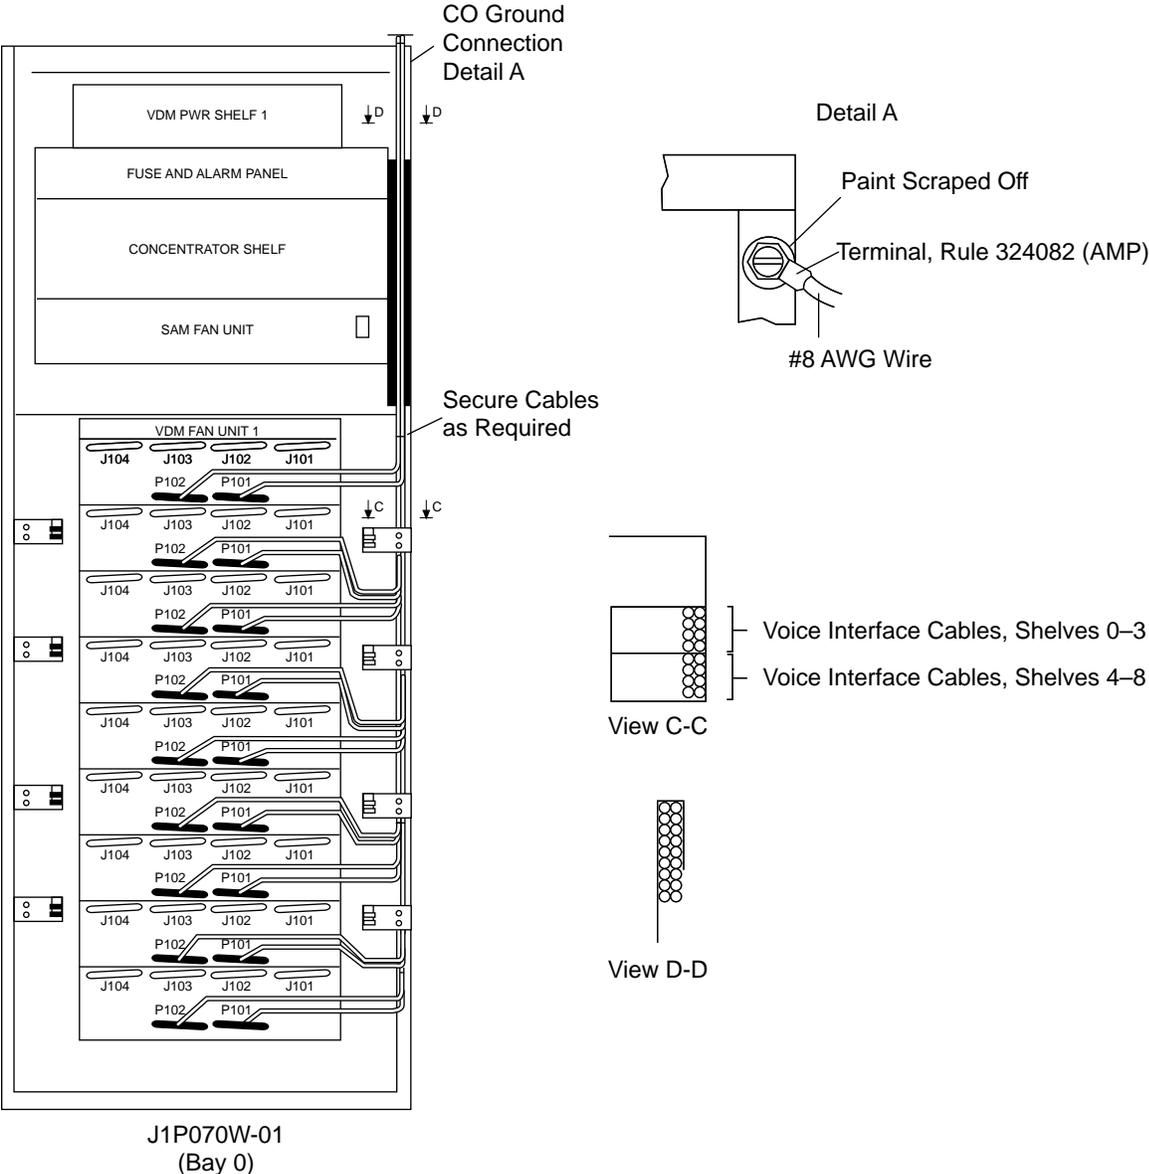

FIGURE 2-18. Cabinet Cabling for Bay 0 Only
3. Loosen TB7 upper terminals 1, 3 and 6 (see Figure 2-18).
5. Loosen TB7 upper terminals 7, 9 and 12 (see Figure 2-18).
9. Verify that the TB7 fuse ratings are set as shown in Figure 2-18.
9. Verify the TB7 fuse ratings, as shown in Figure 2-18.